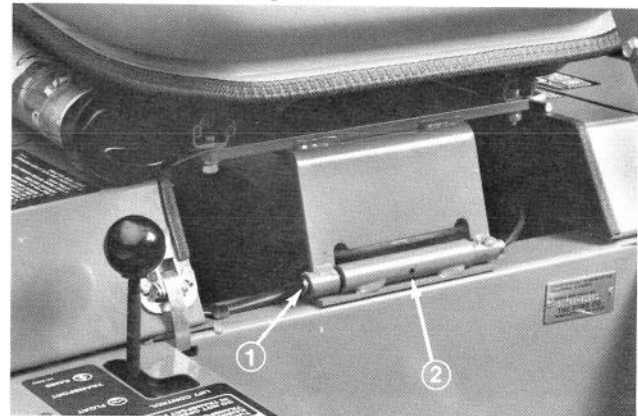

Figure 8
6. Mount seat and seat support to unit with pivot shaft and roll pin (Fig. 8).